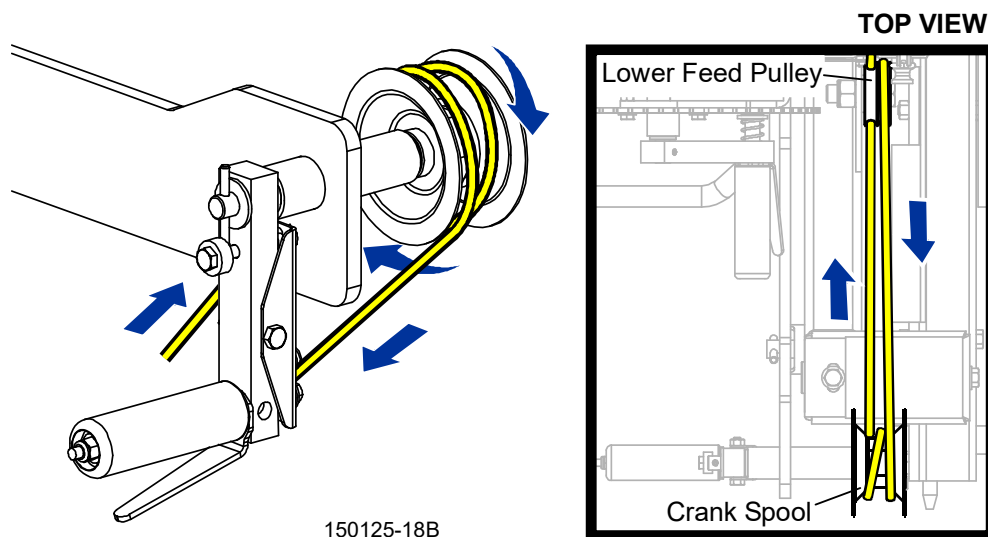

FIG. 3-12
8. Loop the feed rope around the crank spool twice. See FIG. 3-12.